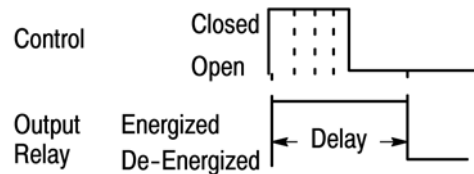

Figure 6
6.4. Type 4: Latching Interval (Figure 6)